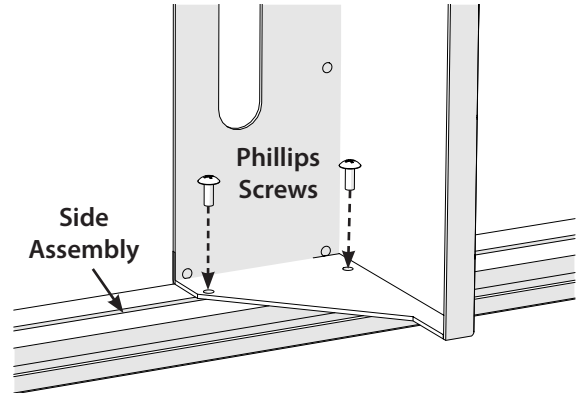

Figure 3: Installing the Shelf on the Side Assembly (Step 3)
3. Locate the holes on the inside of the left side assembly and insert the Phillips screws through the hole on the shelf and through the hole on the organizer and finger tighten the screws (Figure 3).